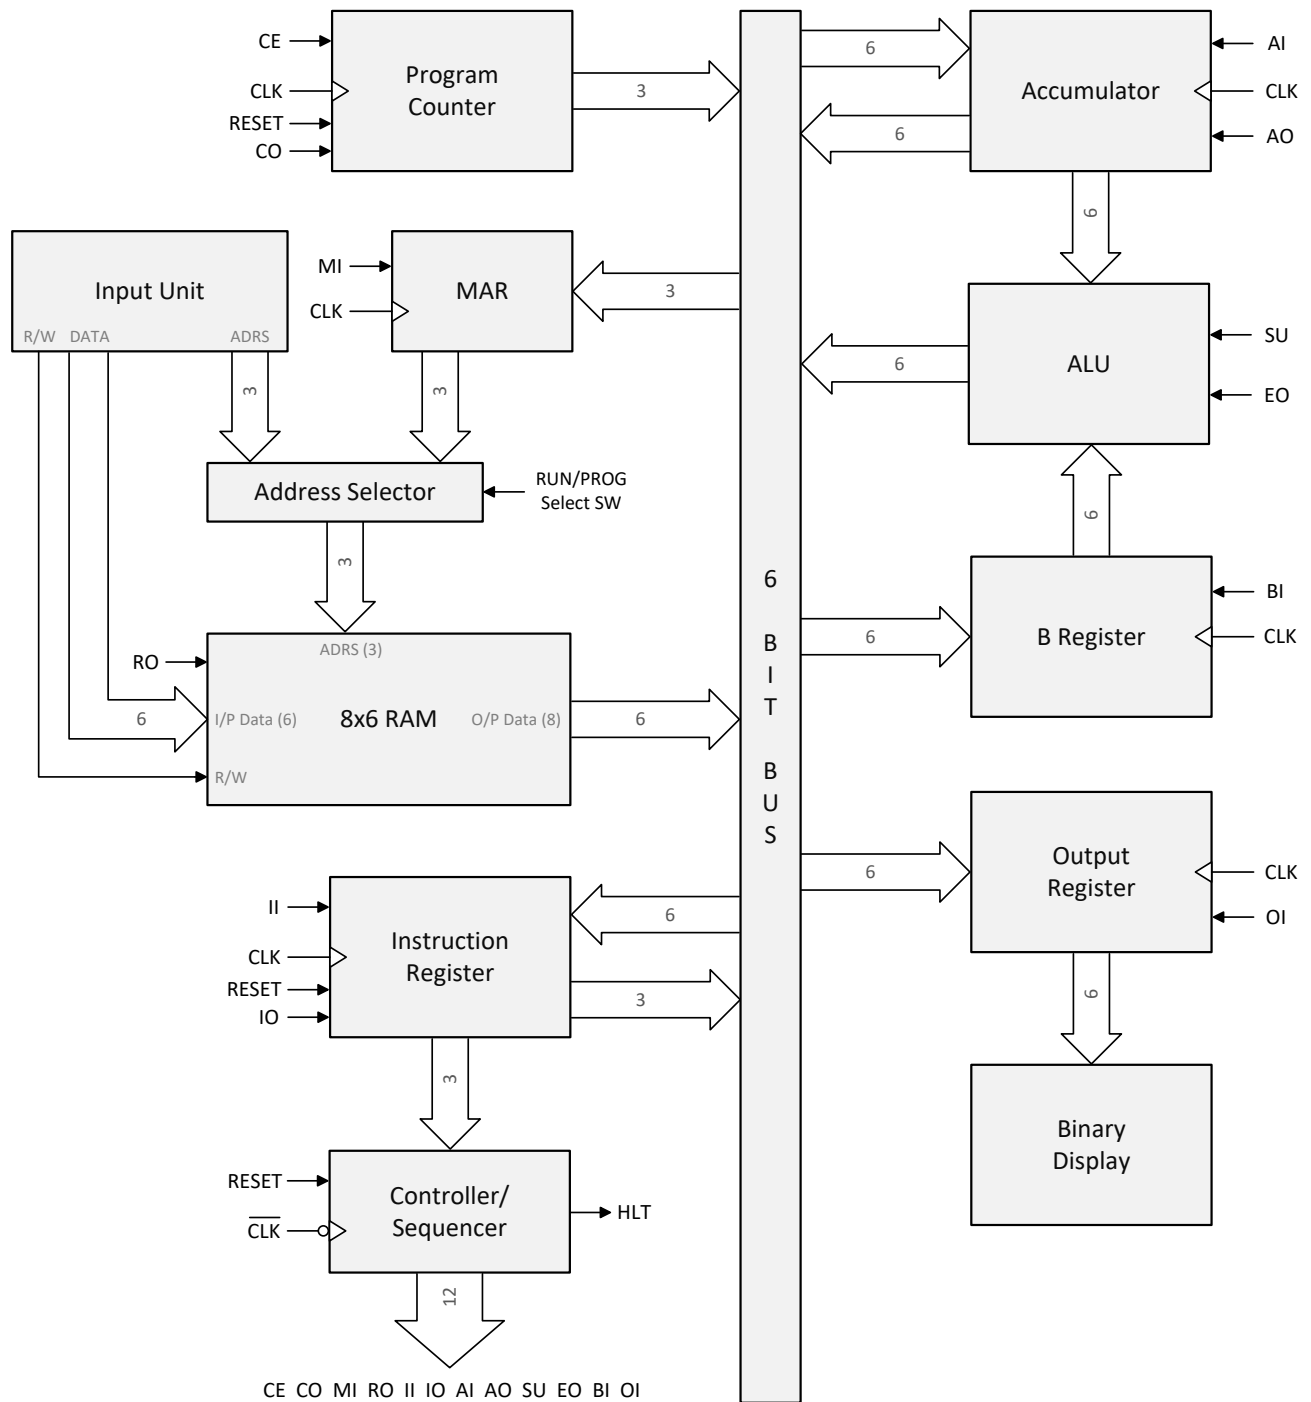

Fig. 1: Block diagram of the project.
11. The computer must have all the blocks shown in the project diagram (Fig. 1). Specifications of each block are described later.
This section discusses the specifications/requirements for each block/submodule shown in the project diagram (Fig. 1) -